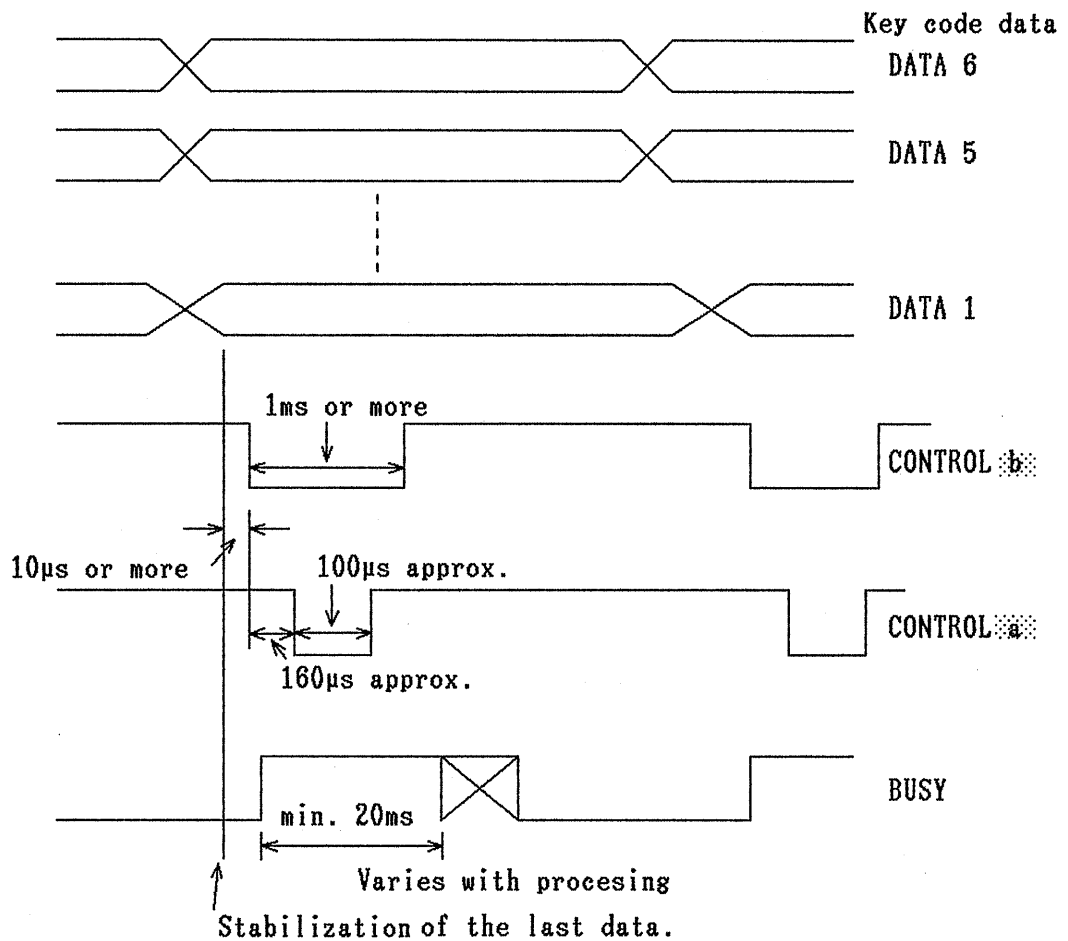

Fig. 5-2
Set the key code data DATA 1 - 6 while the BUSY signal is off ("0"), give 10 μs or more time after the last data of DATA 1 - 6 is stabilized, and set CONTROL **b** to "0" for 1 ms or longer as shown in Figure 5-2.
- (1) Set the DATA ENTRY FREQ code "010010" according to the panel key code table (Table 5-1).
- (2) Set CONTROL  to "0" for 1 ms or longer as shown in the timing chart of Figure 5-2.
- (3) Set the data for "82." according to the key code table, and send it by setting CONTROL  to "0" for 1 ms or longer.